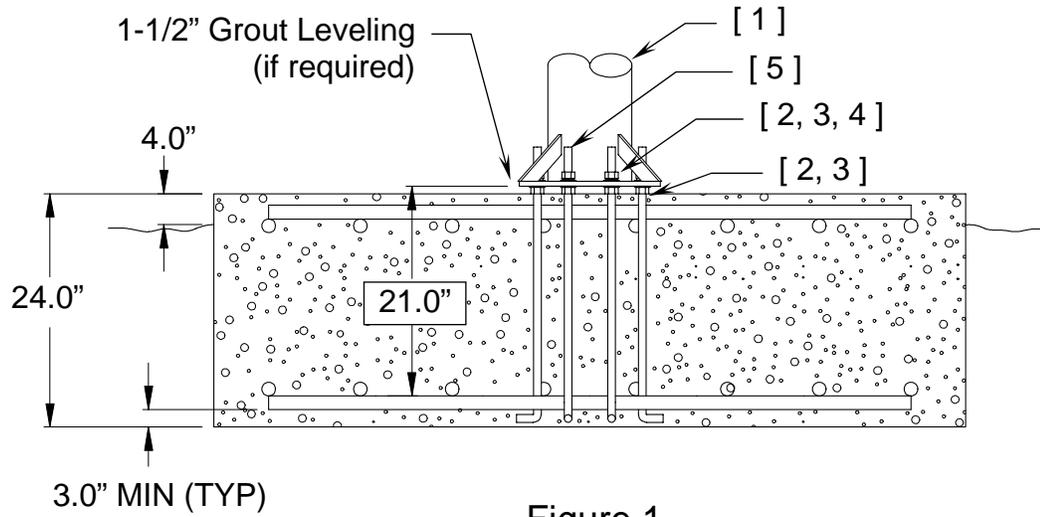

Figure 1
Figure 1 shows a suggested Pad Foundation and figure 2 shows a suggested Pier Foundation. Both foundations utilize General Dynamics' Pedestal Mount. To install the Pedestal Mount foundation, follow the steps below.
1. Install one [1] 1½" -6 hex nut and one [1] 1½" flat washer (items 2,3) onto the anchor rod (item 5), then insert the anchor rod into one of the holes in the plywood template (item 6) and install another 1½" -6 hex nut and 1½" flatwasher. Repeat this procedure for the remaining anchor rods. This will keep all the anchor rods in the straight and proper orientation when the concrete is poured. Next, install two [2] 1-8 hex nuts and one [1] flatwasher (items 2,3) on the other end of each anchor rod. See following pad layout and figures 1 & 2.
3. Once the concrete is dry, remove the plywood template and screw the lower hex nuts as far down on the anchor rods as possible. Then install the mast pipe (item 1) on to the anchor rods. Adjust the lower hex nuts until the mast pipe is level in the vertical position. Reinstall the flatwashers, lockwashers and hex nuts. With the mast pipe tightened down, fill the space between the concrete slab and the mast pipe base with grout.